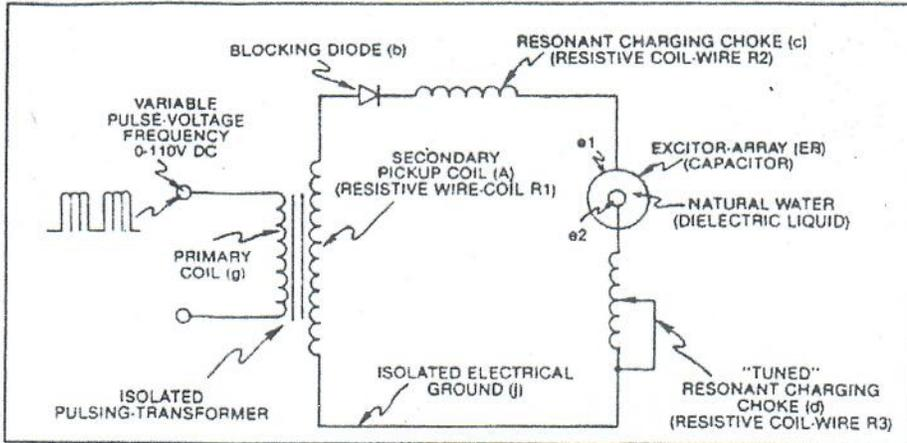

Figure 1-1. Voltage Intensifier Circuit (AA)
**Resonant Charging Choke (c)** in series with Excitor-array (E1/E2) forms an inductor-capacitor circuit (LC) since the Excitor-Array (ER) acts or performs as a capacitor during pulsing operations.
The **Dielectric Properties** (insulator to the flow of amps) of natural water (dielectric constant being 78.54 @ 25c) between the electrical plates E1/E2 forms the capacitor (ER). Water now becomes part of the Voltage Intensifier Circuit in the form of "resistance" between electrical ground and pulse-frequency positive-potential... helping to prevent electron flow within the pulsing circuit (AA) of Figure 1-1.